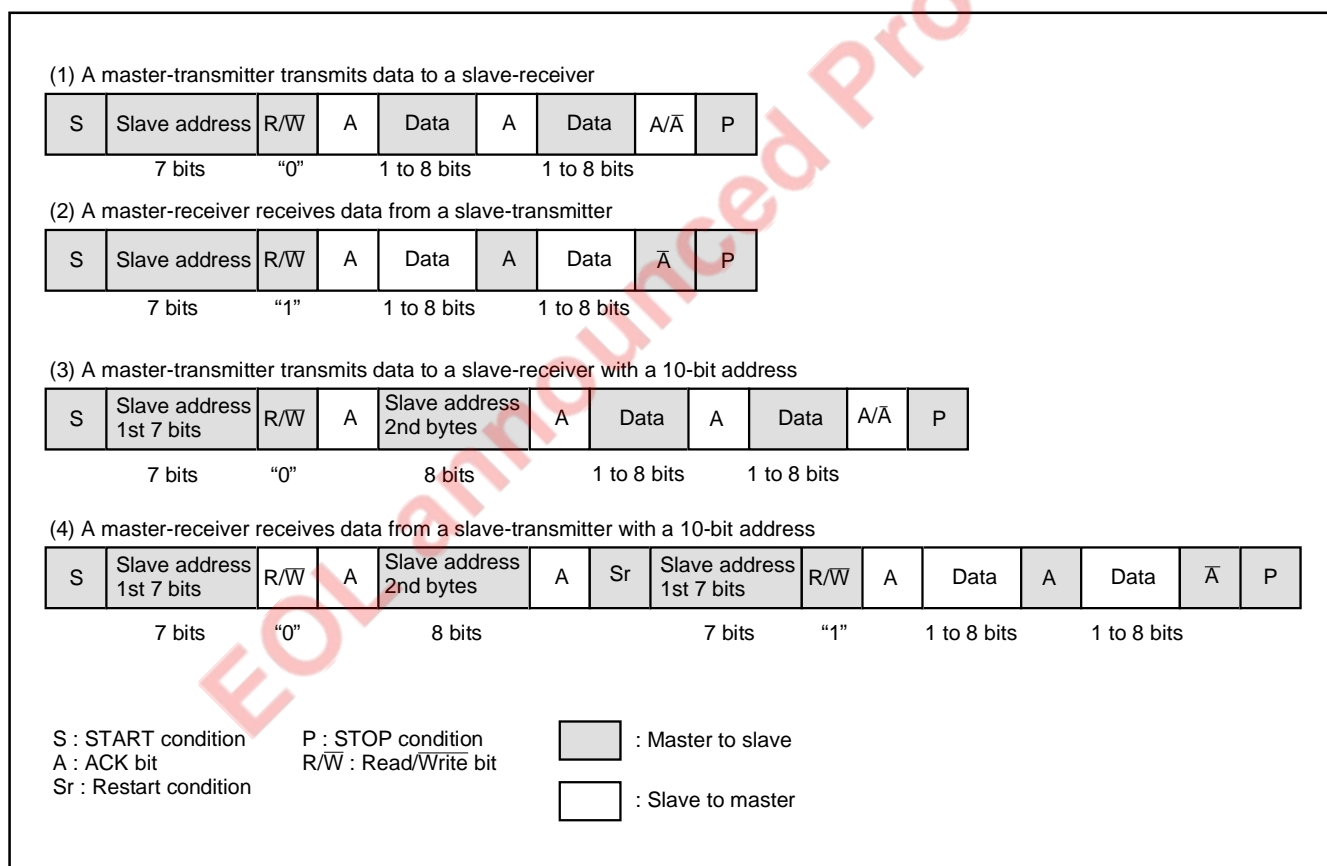

Fig. 69 Address data communication format
① 7-bit addressing format
To adapt the 7-bit addressing format, set the 10BIT SAD bit of the I²C control register (S1D: address 0014₁₆) to 0". The first 7-bit address data transmitted from the master is compared with the high-order 7-bit slave address stored in the I²C slave address register. At the time of this comparison, address comparison of the RWB bit of the I²C slave address register is not performed. For the data transmission format when the 7-bit addressing format is selected, refer to Figure 69, (1) and (2).
② 10-bit addressing format
When the first-byte address data agree with the slave address, the AAS bit of the I²C status register (S1: address 0013₁₆) is set to 1. After the second-byte address data is stored into the I²C data shift register (S0: address 0011₁₆), perform an address comparison between the second-byte data and the slave address by software. When the address data of the 2 bytes agree with the slave address, set the RWB bit of the I²C slave address register to 1" by software. This processing can make the 7-bit slave address and R/\overline{W} data agree, which are received after a RESTART condition is detected, with the value of the I²C slave address register. For the data transmission format when the 10-bit addressing format is selected, refer to Figure 69, (3) and (4).